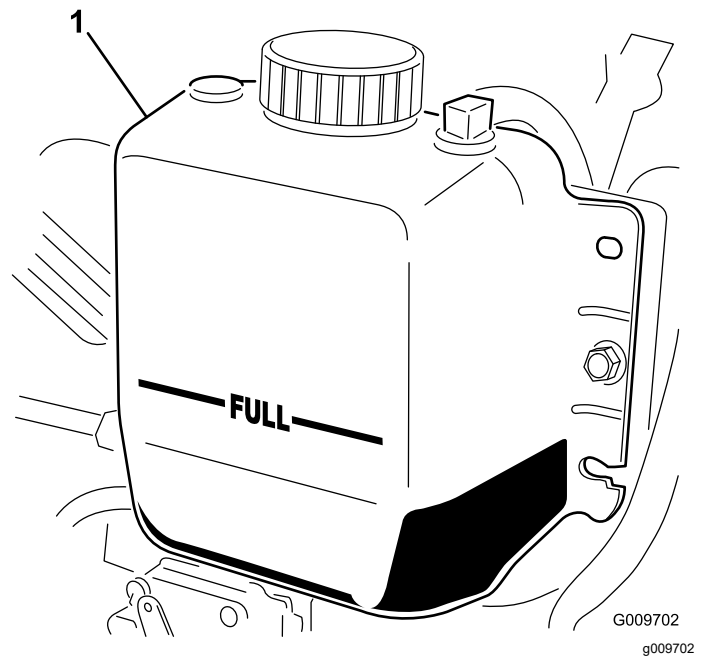

Figure 62
2. Check the coolant level in the radiator. The radiator should be filled to the top of the filler neck and the expansion tank filled to the FULL mark (Figure 62).